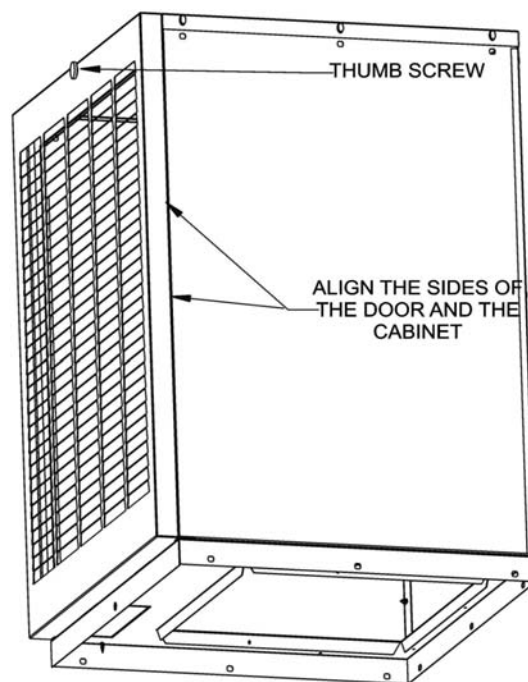

Figure 4: Aligning The Sides Of The Louvered Filter Door and Reinstalling Thumb Screw.
8. Lift the door up to the cooling cabinet and align the slots on the bottom of the door with the tabs on the mounting bracket on top of the furnace. Refer to Figures 4 and 5.